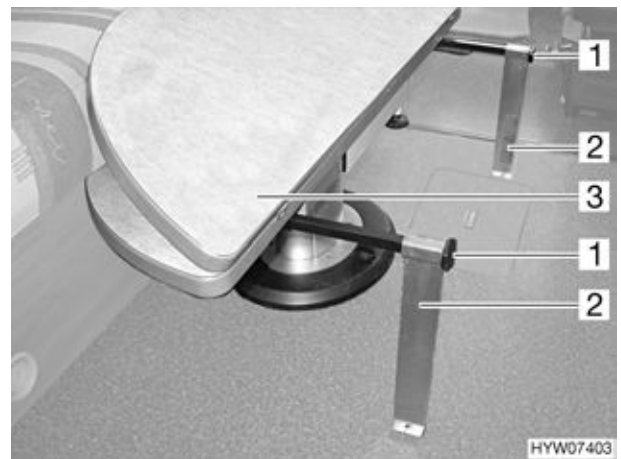

Fig. 66 Conversion to bed
- Pull out the support rails (Fig. 66,1) as far as possible.
- Take the metal supports (Fig. 66,2) out of the holders in the bench and slide them onto the support rails (Fig. 66).
- Fold over the upper half of the table-top (Fig. 66,3) and rest it on the support rails.
- Pull off the metal supports (Fig. 66,2) and store them in the holders in the bench.
- Slide the support rails (Fig. 66,1) all the way in.